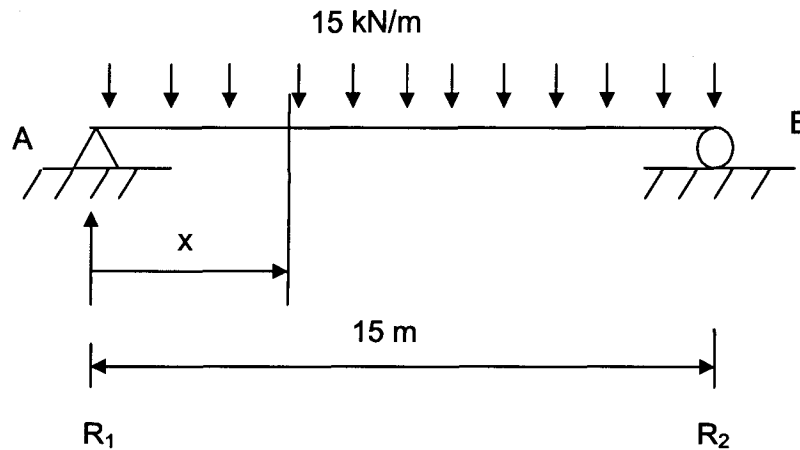

Figure 2/Rajah 2
2. (a) Calculate the reactions for the beam (R_1 and R_2) as shown in Figure 2.
- (b) Determine the bending moment (BM's) at 1m centre across the span shown in Figure 2.
- (c) Draw the bending moment diagram for the beam shown in Figure 2.